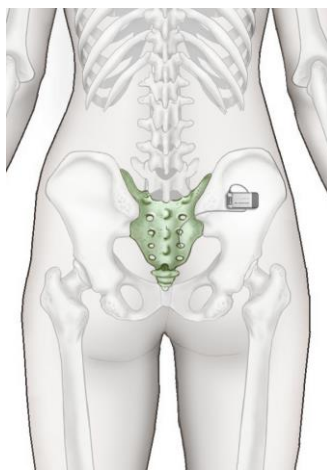

Figure 3: Axonics SNM System implant location eligible for whole body MRI
**Assess neurostimulator implant location prior to MRI Whole Body scan** – Figure 3 shows the typical implant location and lead pathway inside a body. The neurostimulator pocket and lead insertion point could be ipsilaterally or contralaterally located. The neurostimulator should be implanted in either the left or right upper buttock area of a patient for MRI Whole Body scan eligibility. MRI Whole Body scans on a patient with a neurostimulator implanted in locations other than the posterior hip / upper buttock area are untested and may cause unintended stimulation, device damage, or excessive heating, which could result in pain or injury to the tissues surrounding the implants.